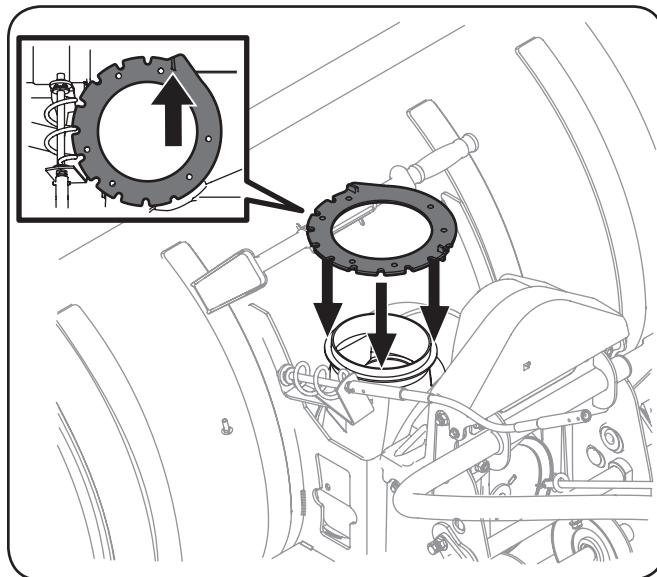

Figure 3-16
2. Position the chute ring on top of the auger housing's chute adapter as show in Figure 3-16.